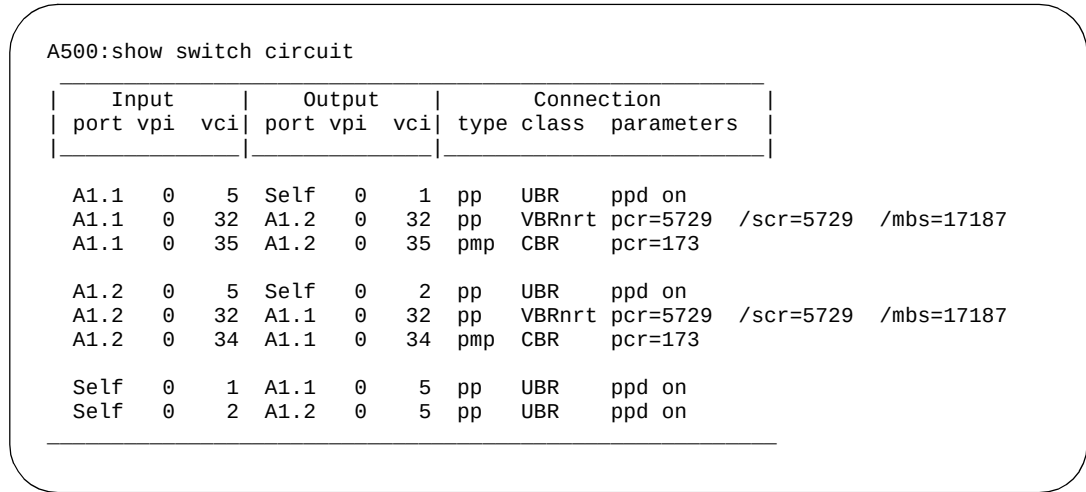

Figure 1-60. A500:show switch circuit screen
1. Enter **show switch circuit** on the A500 console. Figure 1-60 shows the screen output.